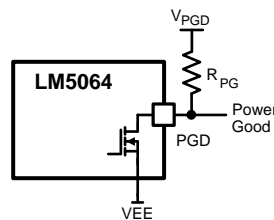
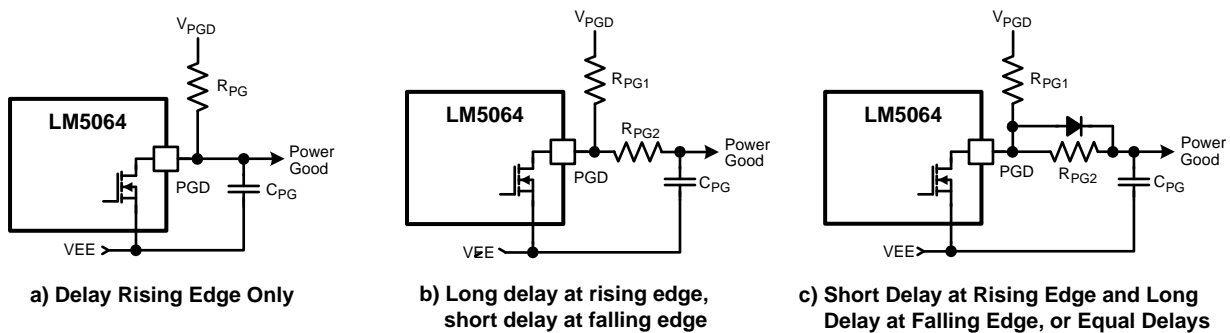

Figure 13. Power Good Output
Figure 14. Adding Delay to the Power Good Output Pin
When the Q₁ V_{DS} voltage is below its threshold, the internal pull-down acting on the PGD pin is disabled, allowing PGD to rise to V_{PGD} through the pull-up resistor, R_{PG}, as shown in Figure 13. The pull-up voltage (V_{PGD}) can be as high as 80V, and can be higher or lower than the voltages at VCC and OUT. VDD is a convenient choice for V_{PGD} as it allows interface to low voltage logic and avoids glitching on PGD during power up. If a delay is required at PGD, suggested circuits are shown in Figure 14. In Figure 14(A), capacitor C_{PG} adds delay to the rising edge, but not to the falling edge. In Figure 14(B), the rising edge is delayed by R_{PG1} + R_{PG2} and C_{PG}, while the falling edge is delayed a lesser amount by R_{PG2} and C_{PG}. Adding a diode across R_{PG2} (Figure 14 (C)) allows for equal delays at the two edges, or a short delay at the rising edge and a long delay at the falling edge.